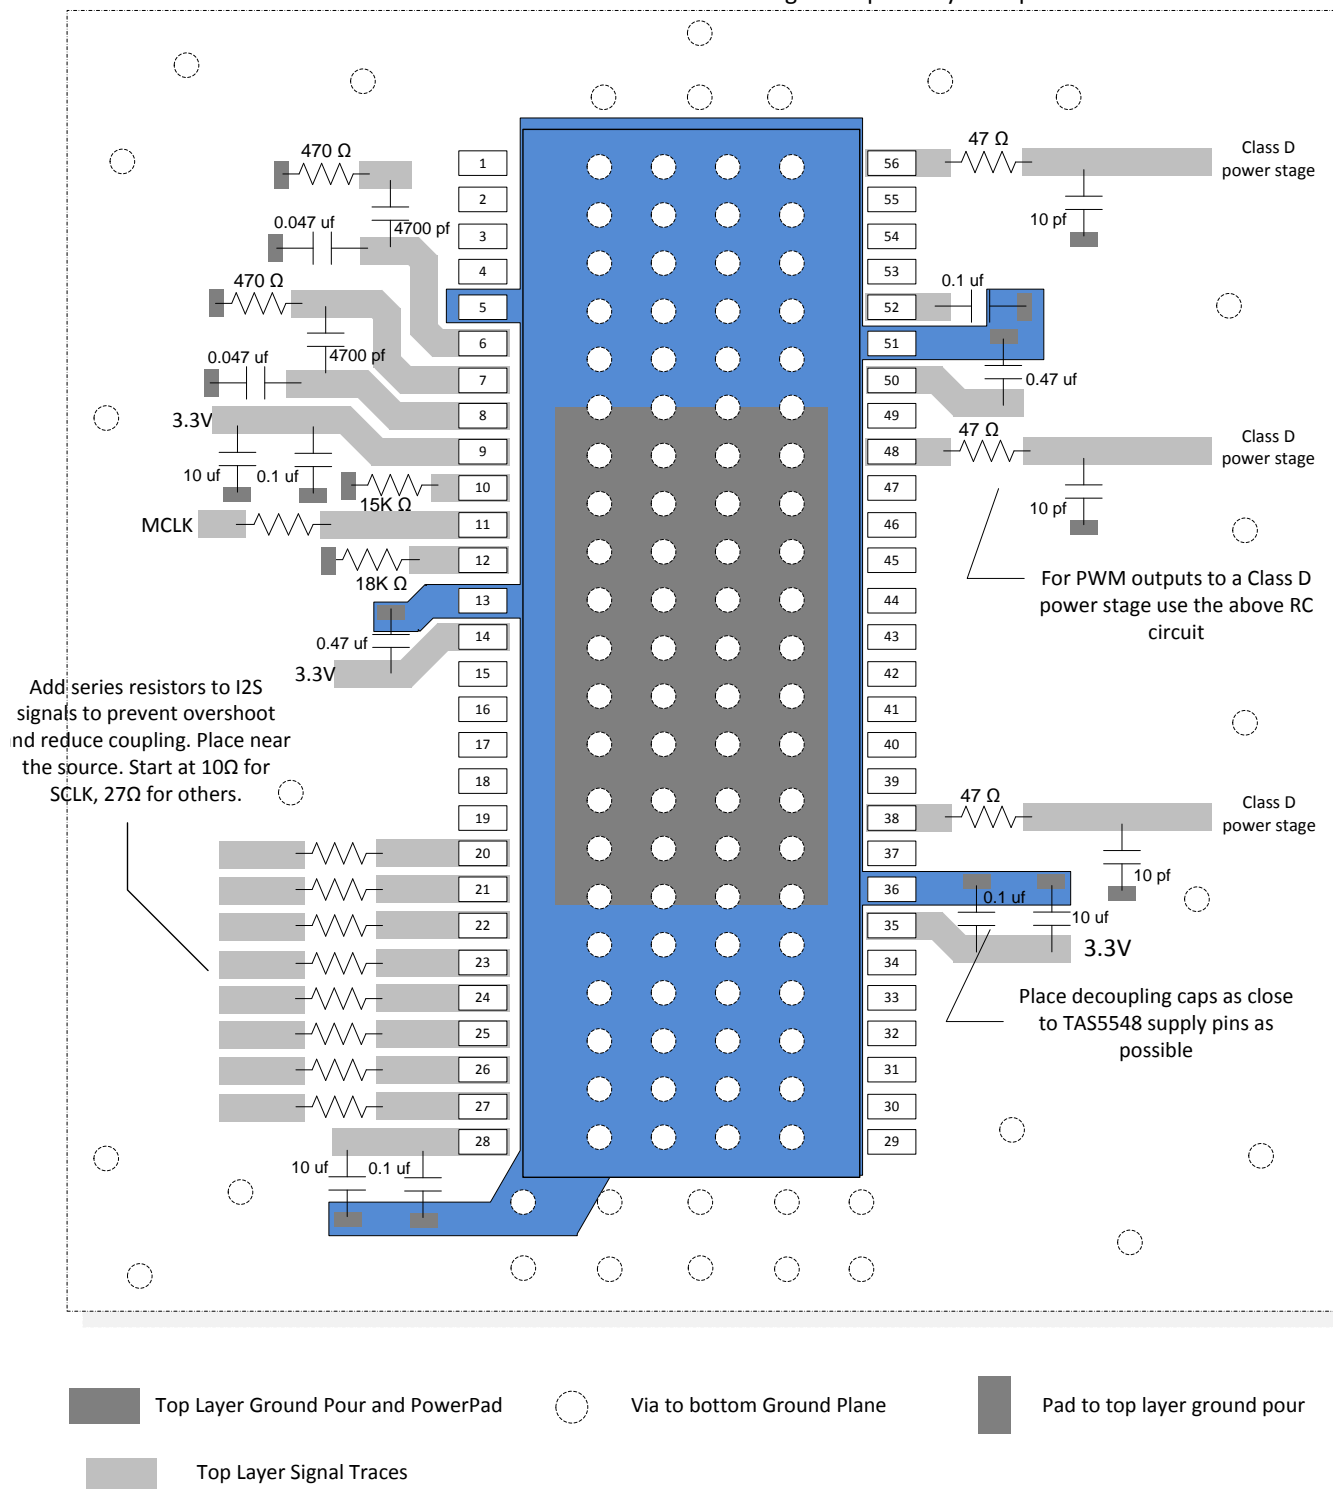

图 53. TAS5558 Layout Example
- Decoupling capacitors should be placed as close to the DVDD1_CORE, DVDD2_CORE, VR_DIG, AVDD_PWM and AVDD as possible. These decoupling capacitors should also have a path through the GND plane back to the power pad, as shown by the blue area in the layout example in 图 53.
- Further guidelines can be found on the layout example in 图 53.